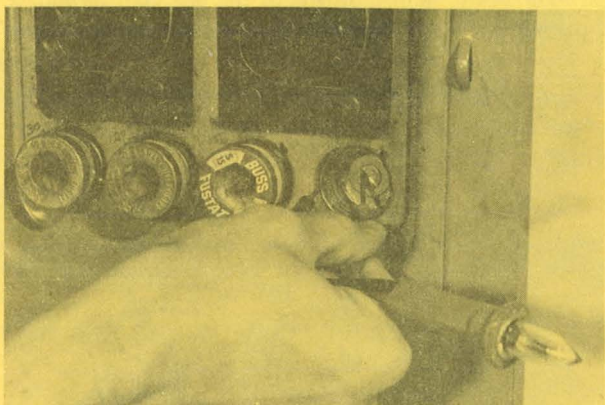

Figure 3
1. Test the fuse box to see if it is carrying electricity to the outlet. Remove the fuse which controls the outlet in question. Place one terminal of the test light on the center screw of the fuse receptacle. Place the other terminal on the inside ridges (Fig. 3). If the test light glows, power is going to the fuse and you probably need a new fuse.